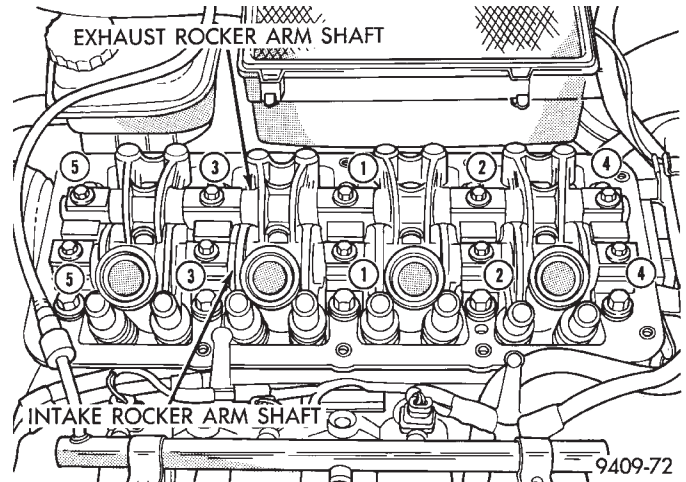

Fig. 43 Rocker arm Tightening Sequence
(3) Install rocker shaft assemblies in correct order as removed. Tighten rocker arm shaft bolts in sequence shown in (Fig. 43) to 28 N·m (250 in. lbs.).
(4) Install inner timing belt cover and camshaft sprocket.
(5) Install timing belt.
(6) Install intake manifold. Refer to procedure in this section.
(7) Connect electrical connectors to cam sensor and fuel injectors.